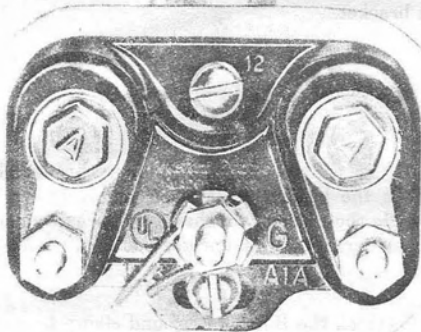

Fig. 28—Ground Wire of 114A Bracket Connected to Protector Ground Terminal
(4) Connect the 2-inch length of copper wire (attached to the bracket) *under the pronged washer of the protector ground terminal* (Fig. 28).